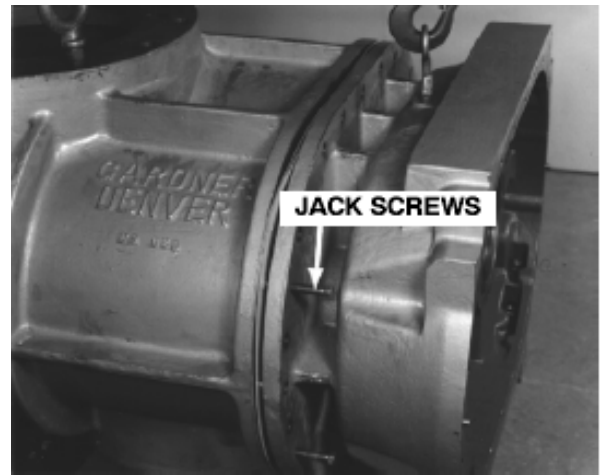

FIGURE 6-11 – BEARING CARRIER
11. After removal of the rotors, rearrange blocking so the discharge end bearing carrier hangs free. Remove all screws and jack the carrier evenly from the dowel pins, FIGURE 6-11, page 39). Support the carrier as it is removed.